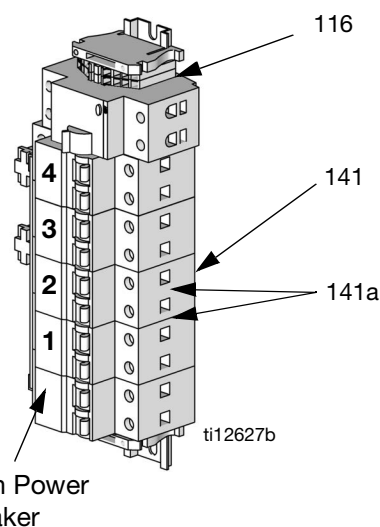
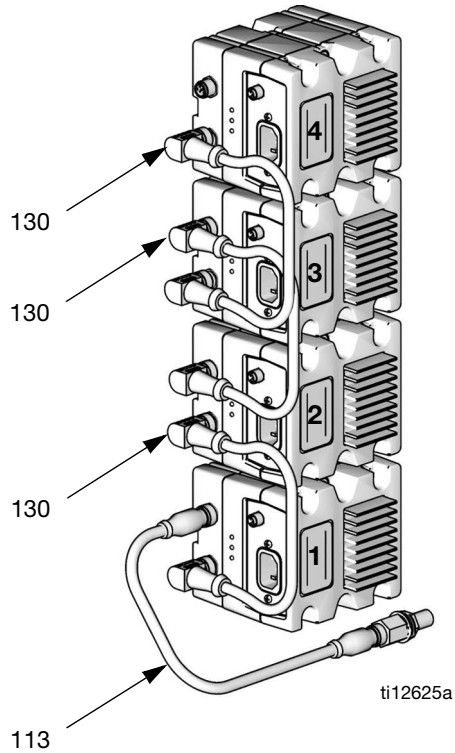

FIG. 7: Breaker Numbering
FIG. 10: Data Cable Connections
There is one breaker for each heated hose or heated tank. The lower number breakers are used for the heated tanks if installed. See FIG. 7. Each breaker has a different rating so it is important that the correct breaker is used.
2. Connect the green wire to any unused ground terminal block (116).
3. Find the breaker with the same number as the module as shown in FIG. 7 on page 7 and FIG. 10 on page 10.
4. Connect the black and white wires to the breaker (141) labeled with the same number as the module. The black and white wires can connect to either terminal (141a) in the same breaker (141).
The low power temperate control modules must be connected together using the female-female CAN cables (130) as shown in FIG. 10. Then they must be connected to the display module using the female-male CAN cable (113).